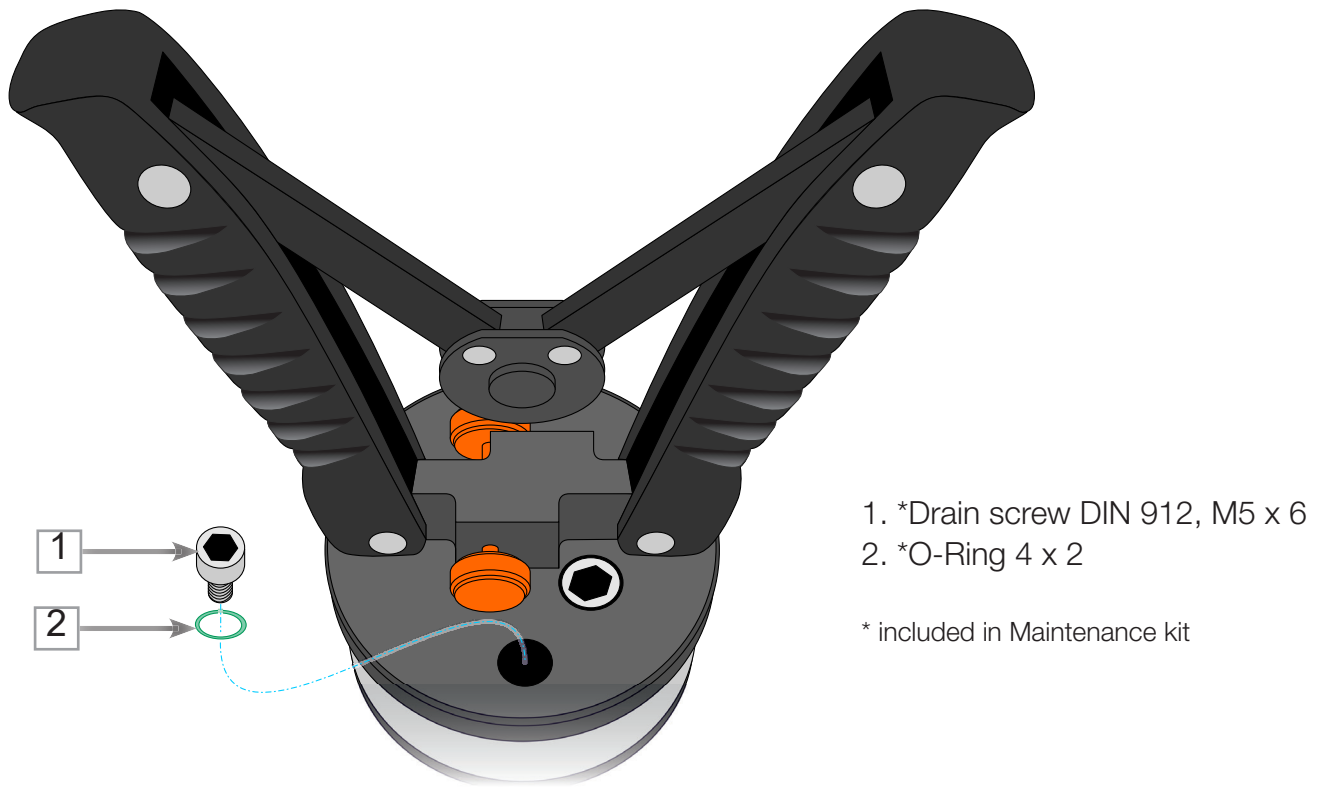

Figure 5. PGHH bottom view - reservoir drain screw.
13. If operated with distilled water, the reservoir must be emptied after each use by removing the drain screw from the bottom of the reservoir (see figure 5).
- Screwed connections must be fixed with a torque of 25 Nm (Drain screw max. 15 Nm, check correct placement of the o-ring 4 x 2 (2 in figure 5)).